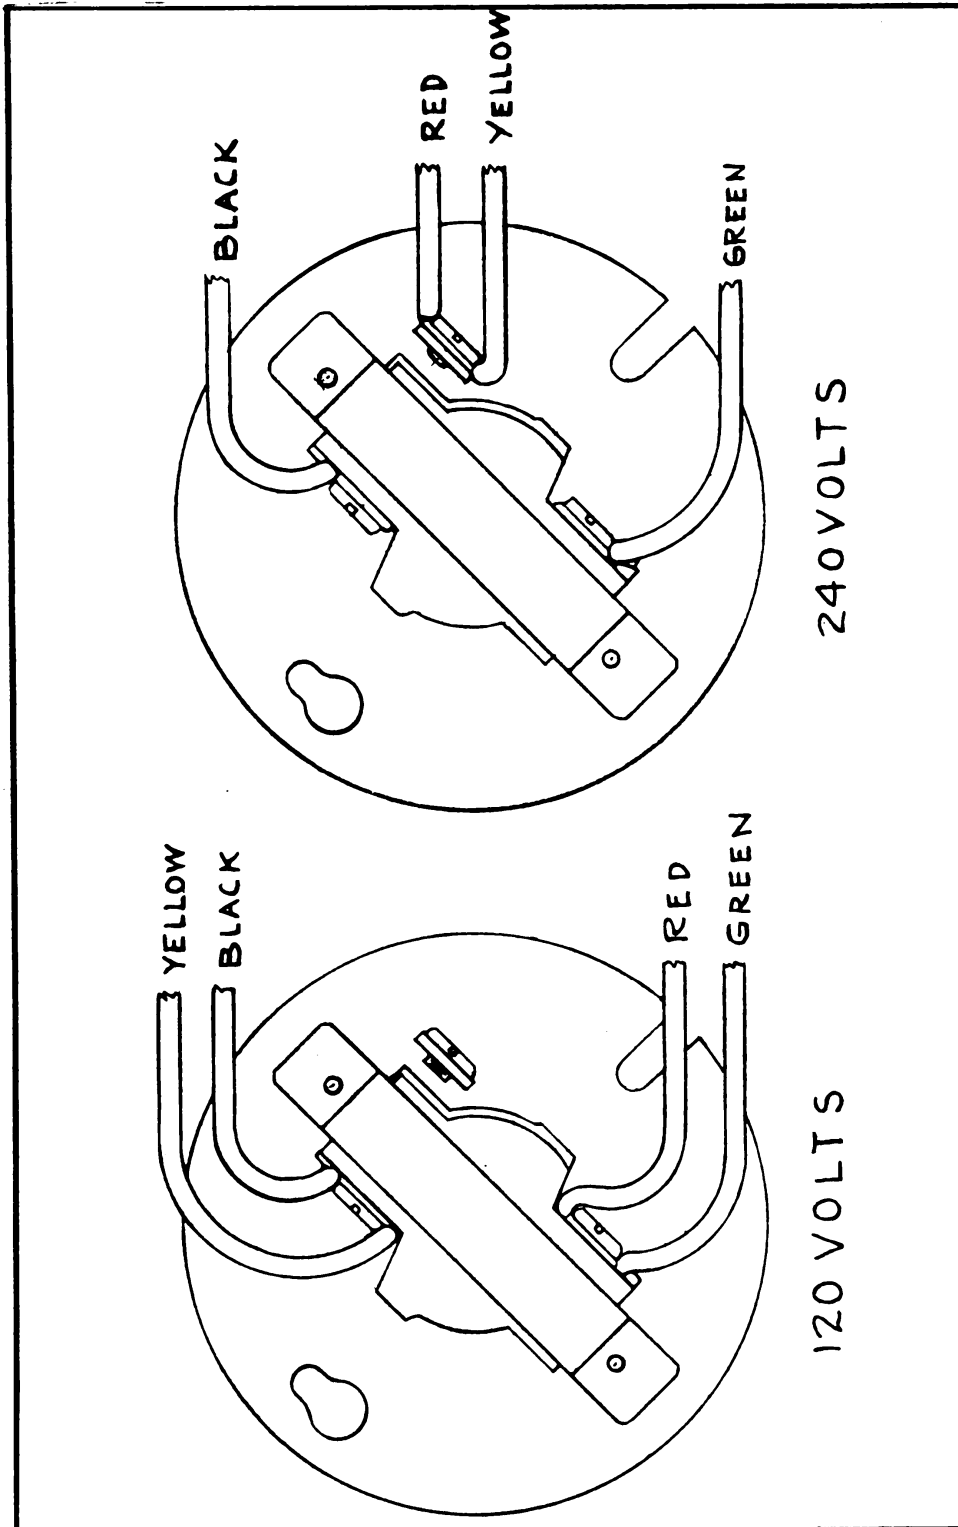

FIG. 5—POWER UNIT PE-214-A, VOLTAGE RECONNECTION
b. Generator Operation.—CAUTION:—BE SURE GENERATOR IS CONNECTED FOR DESIRED VOLTAGE BEFORE OPERATING. (See Fig. 5, Page 14.)
(1) Be sure that the connections in the outlet box are properly made for the desired voltage according to diagram. (Fig. 5, Page 14.)
(2) Be sure that generator is not overloaded or short circuited for long periods of time. The generator will stand short periods of overload and may even be loaded continuously to 350 watts without damage, but greater overloads or short circuits for long periods of time will overheat and destroy the windings.
c. Voltage Change Instructions.—The windings of the generator are so arranged that by reconnection (See Fig. 5, Page 14) either 120 or 240 volts may be obtained. To change the voltage, first remove outlet cover (155) on the end of generator by loosening the two fastening screws (197). Then follow these directions: